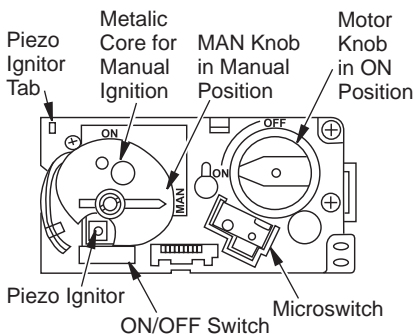

Figure 18 - PJD Control Valve
4. Wait (5) minutes to clear any gas and then smell for gas around heater and near floor. If you smell gas, STOP! follow "B" on page 16. If you do not smell gas, go to the next step.
5. Make sure ON/OFF switch is in "—" (ON) position.
6. MAN knob (valve) in MAN position, a metallic core is visible. (see Figure 18).
1. Disconnect ignitor cable from receiver and connect to Piezo Ignitor Tab (see Figure 18 and *Wiring Diagram* on page 27).
5. Wait (5) minutes to clear any gas and then smell for gas around heater and near floor. If you smell gas, STOP! follow "B" on page 16.
7. MAN-knob on valve is in MAN position (see Figure 18), When in MAN position you can see a metallic core.